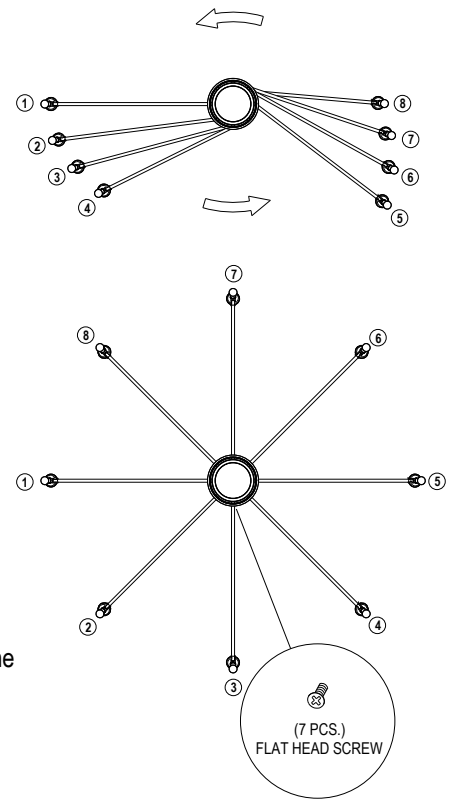

FIGURE-02
- Rotate the arms counter clockwise to their designated places. Start rotating from arm 8 up to arm 2. and secure with flat head screw. (See Figure-02)